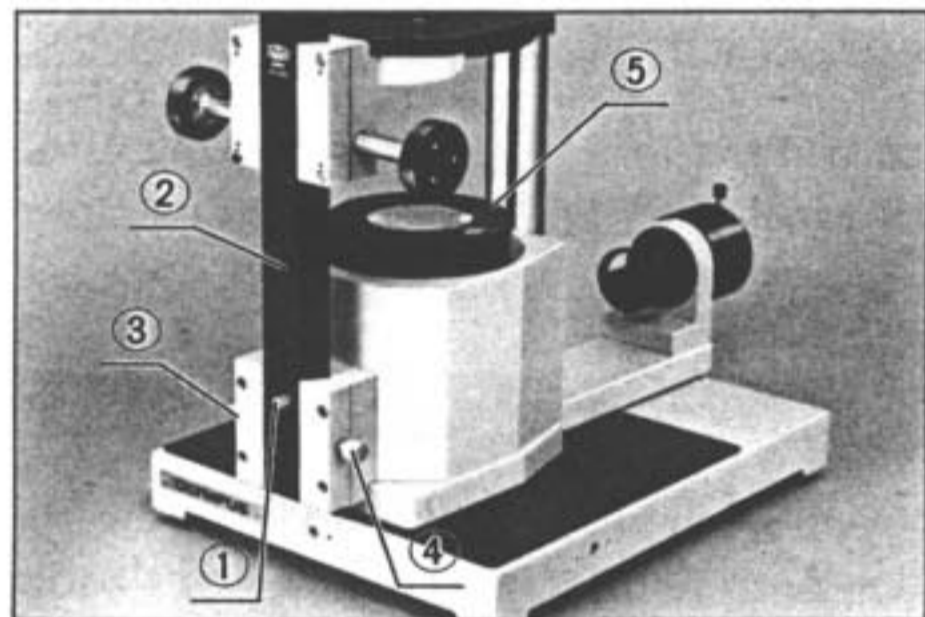

Fig. 7
- 1) Insert the stage dovetail ② into the illuminator base ③ and screw the stop pin ① and tighten the stage dovetail clamping knob ④. (Fig. 7)
- 2) When using the 38 mm or 20 mm macro lens, add the auxiliary condenser ⑤ on the condenser lens built in the illuminator (not necessary for the 80 mm macro lens). (Fig. 7)